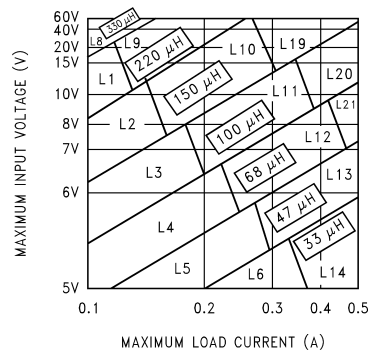
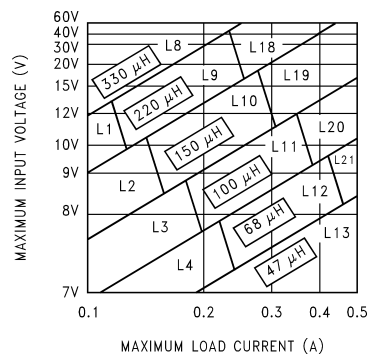
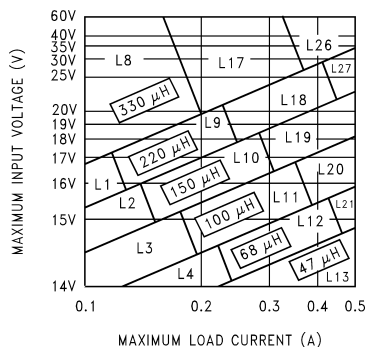

Figure 7. LM2597/LM2597HV-3.3
Figure 8. LM2597/LM2597HV-5.0
Figure 9. LM2597/LM2597HV-12
1. Inductor Selection (L1) A. Select the correct inductor value selection guide from Figure 7 , Figure 8 , or Figure 9 . (Output voltages of 3.3V, 5V, or 12V respectively.) For all other voltages, see the design procedure for the adjustable version. B. From the inductor value selection guide, identify the inductance region intersected by the Maximum Input Voltage line and the Maximum Load Current line. Each region is identified by an inductance value and an inductor code (LXX). C. Select an appropriate inductor from the four manufacturer's part numbers listed in Table 3 .	1. Inductor Selection (L1) A. Use the inductor selection guide for the 5V version shown in Figure 8 . B. From the inductor value selection guide shown in Figure 8 , the inductance region intersected by the 12V horizontal line and the 0.4A vertical line is 100 μH , and the inductor code is L20. C. The inductance value required is 100 μH . From the table in Table 3 , go to the L20 line and choose an inductor part number from any of the four manufacturers shown. (In most instance, both through hole and surface mount inductors are available.)